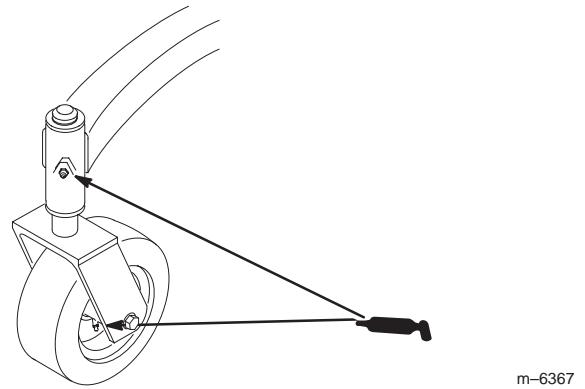

Figure 33
1. Lubricate the front wheel bearings and front spindles until grease begins to ooze out of the bearings (Fig. 33).